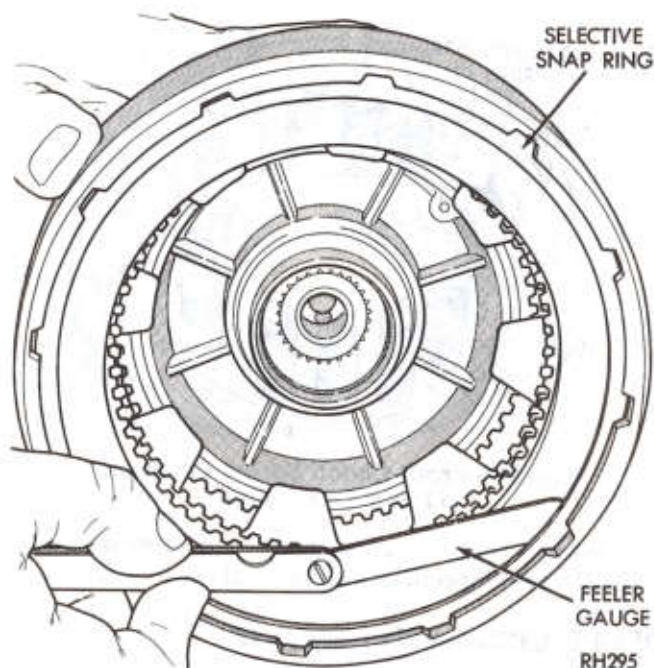

Fig. 29—Measure Rear Clutch Plate Clearance
(5) Install inner pressure plate in clutch retainer with raised portion of plate resting on the spring.
(6) Lubricate all clutch plates, install one lined disc followed by a steel plate until all plates are installed. Install outer pressure plate and selective snap ring.
(7) Measure rear clutch plate clearance by having an assistant press down firmly on outer pressure plate, then insert a feeler gauge between the plate and snap ring (Fig. 29).
(8) Measure rear clutch plate clearance by having an assistant press downward firmly on outer pressure plate, then insert a feeler gauge between the plate and snap ring (Fig. 29). See "Specifications" for allowed clearance. If necessary, install a new snap ring of proper thickness to obtain specified clearance. Low limit clearance is desirable. **Rear clutch plate clearance is very important in obtaining proper clutch operation. The clearance can be adjusted by the use of various thickness outer snap rings. Snap rings are available in .060, .074, .088, and .106 inch thickness.**
(9) Install #3 thrust washer on rear end of input shaft, using grease to hold in place.